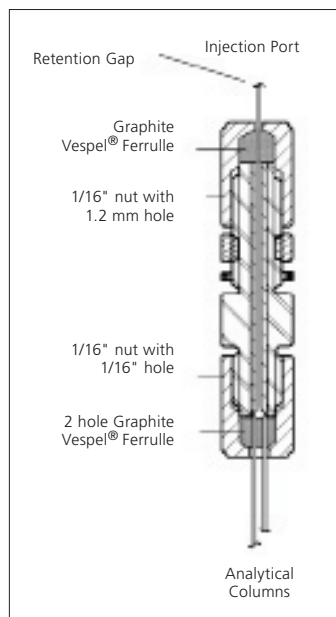

Figure 2.
3. Connection should be made to the longer end of the VSIS-2 union. It is recommended that the fused silica terminates 20 mm into the union. Initially finger tighten the nut, then tighten a further 1/4 of a turn with a 1/4" AF spanner or until the fused silica is secure. (Refer Figure 2).